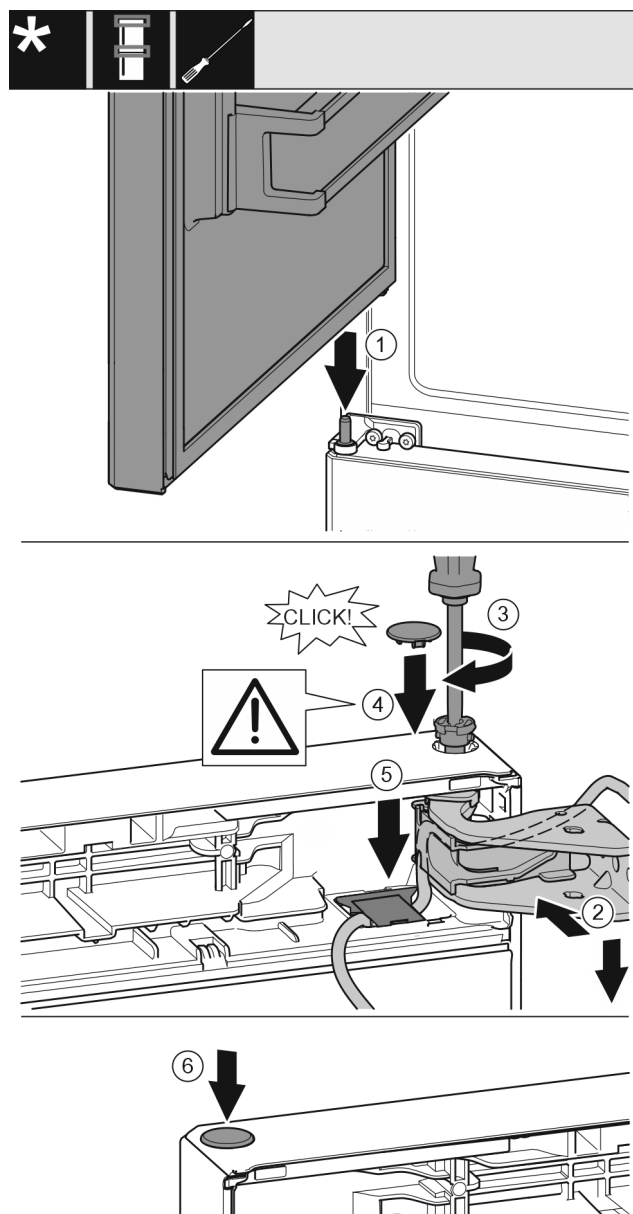

Fig. 43
- Place the top door on the centre bearing bolt Fig. 43 (1).
- Align the top of the door with opening in the bearing bracket. Fig. 43 (2)
- Insert the bolt Fig. 43 (3) and use screwdriver to tighten it.
- Fit the safety cover Fig. 43 (4) to secure the door: Insert the safety cover and check whether the door is resting on it. Otherwise, insert the bolt fully.
- Insert the cover Fig. 43 (5) and push down until it engages.
- Insert the plug Fig. 43 (6).